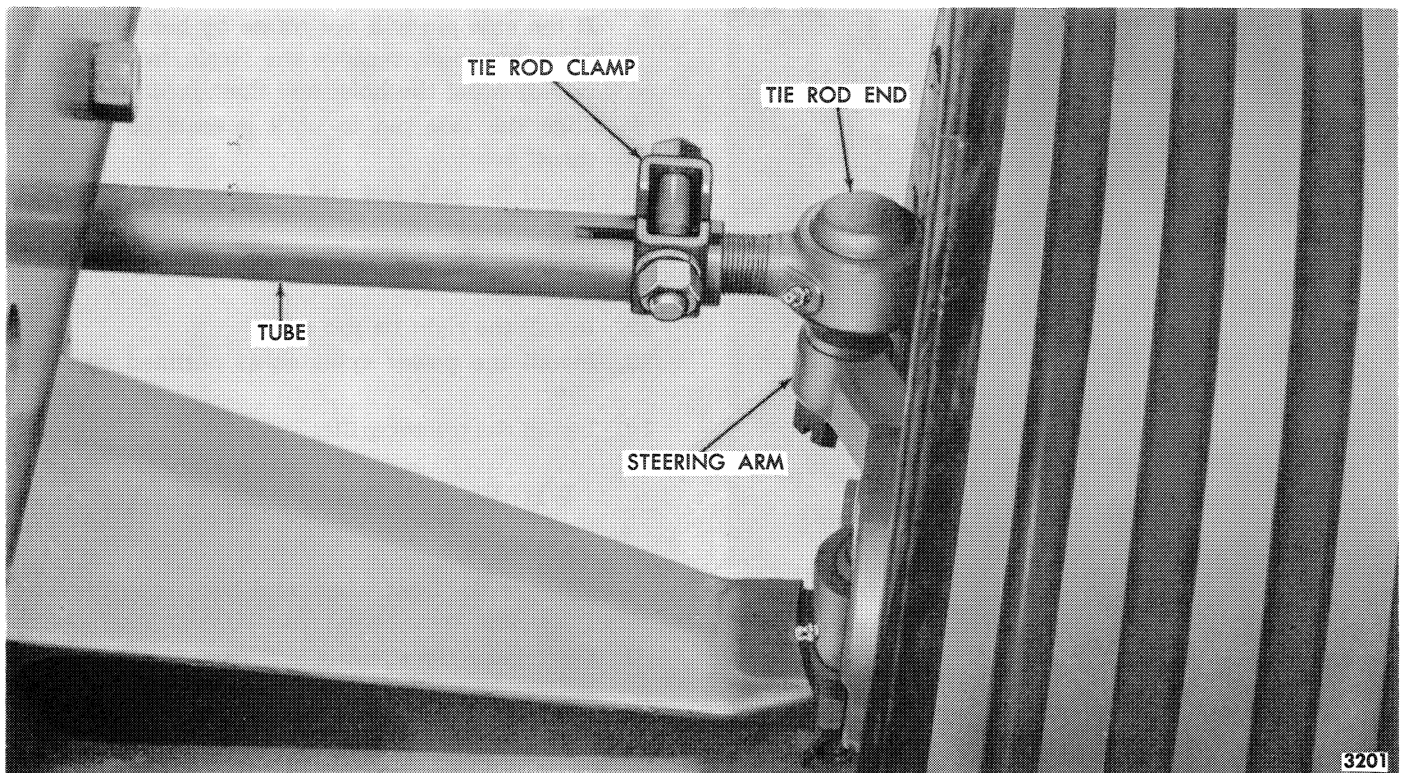

Figure 26—Removing Tie Rod
1. Remove the cotter pin and castellated nut from each tie rod end, Figure 26.